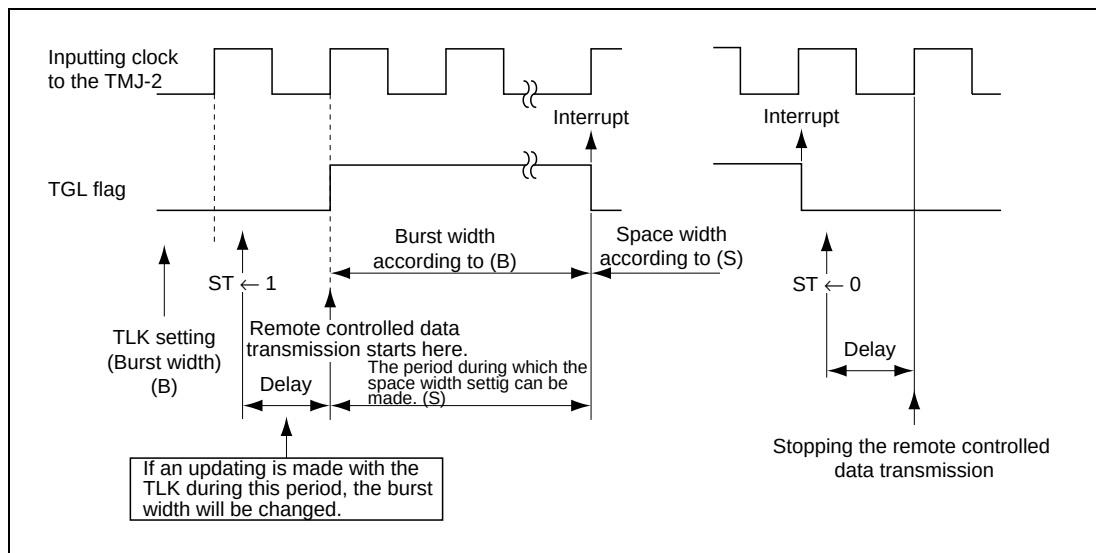

**Figure 13.4 Controls of the Remote Controlled Data Transmission**
When the Timer J is set to the remote controlled operation mode, since the start bit (ST) is being set or cleared in synchronization with the inputting clock to the TMJ-2, a delay upto a cycle of the inputting clock at the maximum occurs, namely, after the ST bit has been set to 1 until the remote controlled data transmission starts. Consequently, when the TLK is updated during the period after setting the ST bit to 1 until the next cycle of the inputting clock comes, the initial burst width will be changed as shown in figure 13.4.